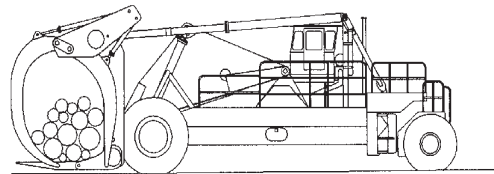

Figure 5-11
1. To unload the carriage for scaling or sorting, leave the carriage level or tilted slightly back. Lower the boom until the carriage is as close to the ground as possible (See Figure 5-11).